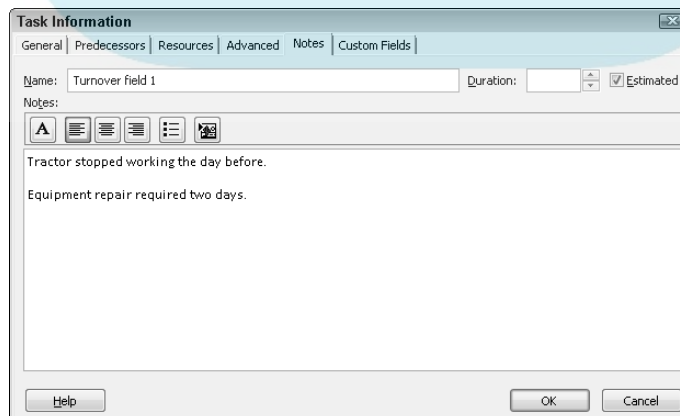

Figure 20-1:
- ✓ Use the Notes area for both tasks and resources to make a record of background information, changes, or special issues (as shown in Figure 20-1). (See Chapter 4.)